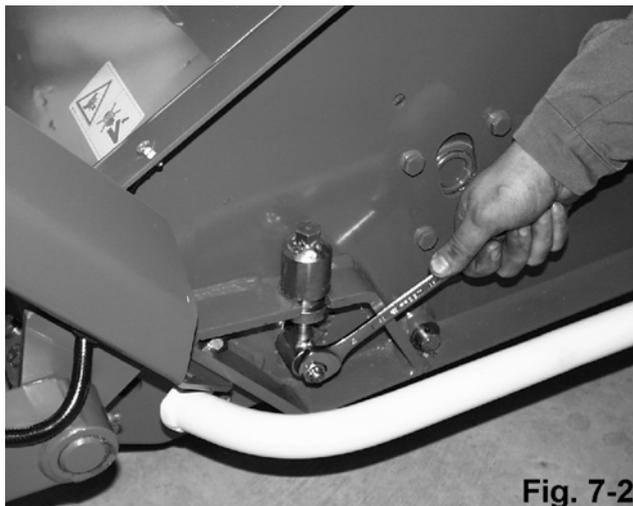

Fig. 7-2
- Loosen the clamping screw (fig. 7-2),